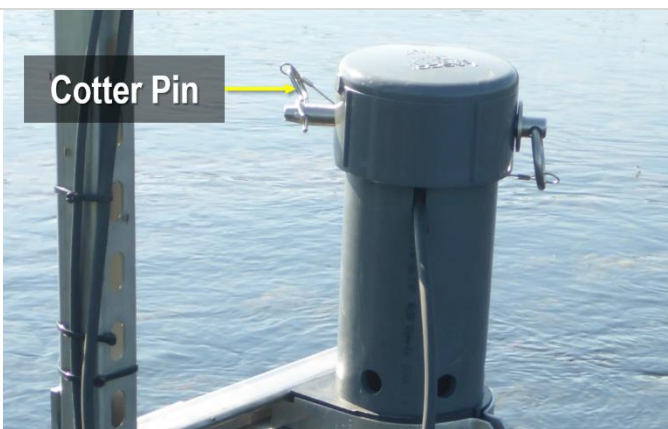

Figure 139. Remove Cotter Pin to Remove PVC Slip Cap
**STEP 3** | Remove the cotter pin securing the PVC slip caps that cover the top of each PVC enclosure (Figure 139).